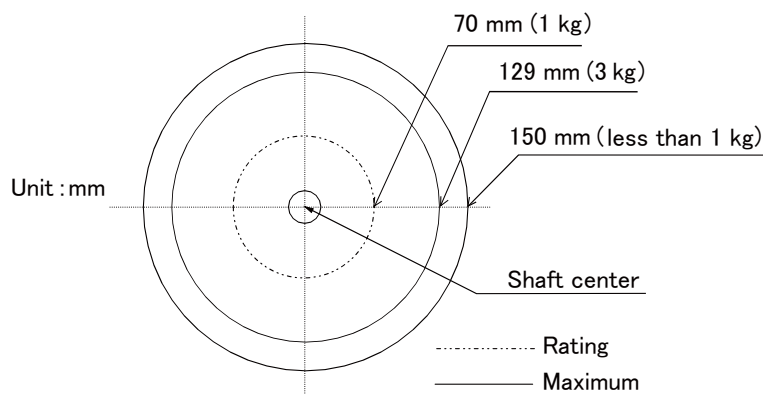
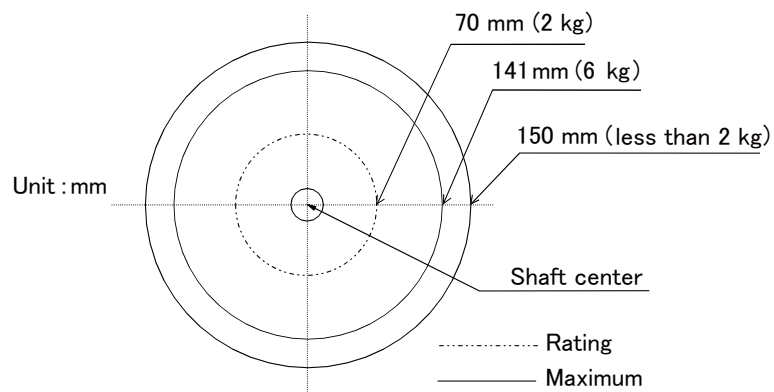

Fig.2-1 : Position of the center of gravity for loads (for loads with comparatively small volume): RH-3CH-S11/S15/S23/S24
Fig.2-3 : Position of the center of gravity for loads (for loads with comparatively small volume): RH-6CH-Sxx
- (1) The tooling should have the value less or equal than the smaller of the allowable moment of inertia found in Page 8, "2.1.1 Basic specifications".
- (2) Fig. 2-1 and Fig. 2-3 shows the distribution dimensions for the center of gravity in the case where the volume of the load is relatively small. Use this figure as a reference when designing the tooling.
Please use the robot in the allowable moment of inertia of maximum moment of inertia shown in Fig. 2-1 and Fig. 2-3.